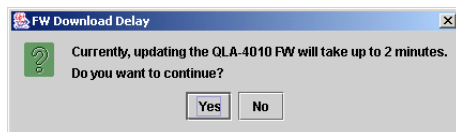

Figure 6-31. FW Download Delay Dialog Box
11. The **FW Download Delay** dialog box displays (see figure 6-31). If you want to proceed, click **Yes**. Otherwise, click **No**.